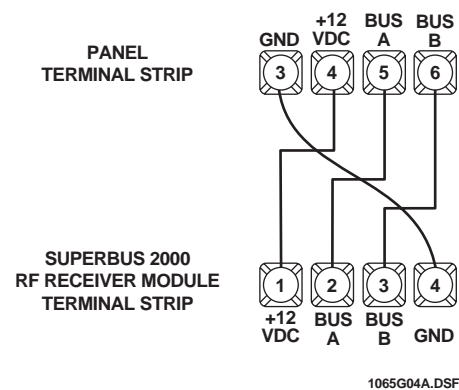

Figure 6. Wiring the Receiver Module to Concord Hard-wire and Wireless Panels
2. Wire the module to the panel power and bus terminals as shown in Figure 6.